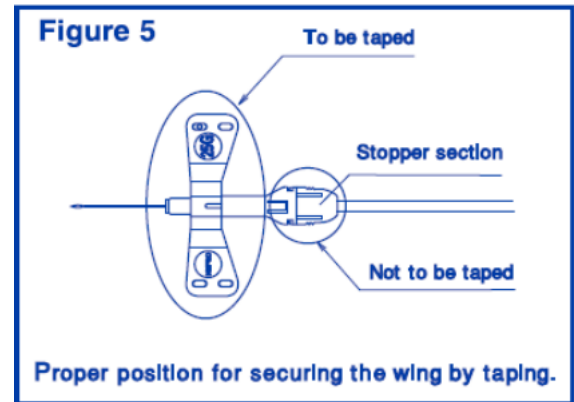

Figure 5. Proper position for securing the wing by taping.
- 5.8 When immobilizing the wing, be careful not to apply tape to the stopper section, since taping the stopper prevents activating the safety mechanism. See Figure 5.